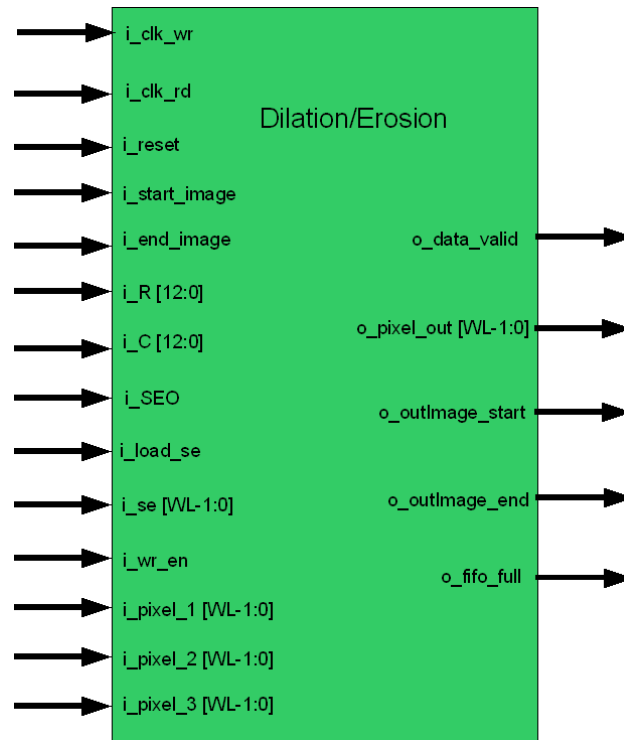

Figure 3: Dilation/Erosion Schematic Symbol
- Fig. 3 represents the schematic symbol of the Dilation/Erosion IP core. It shows all input and output ports with their port width.